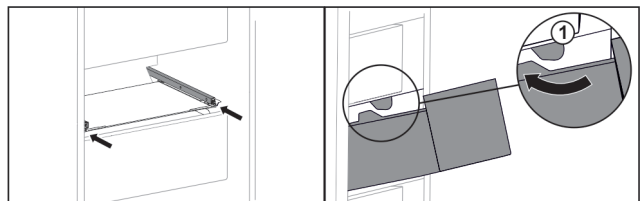

Fig. 115
- ▶ Guide drawer around the stoppers Fig. 115 (1).